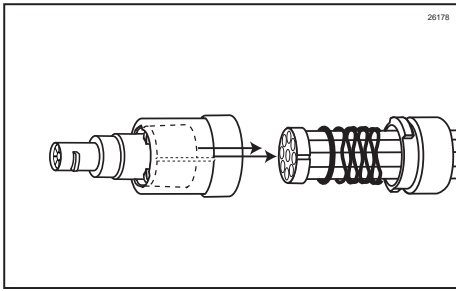

Figure 78
30. Carefully align the pins of the Syrup Line Manifold with the Syrup Line Connector and insert the end of the 9-Tube Assembly fully into the Coupler. (See Figure 78.)